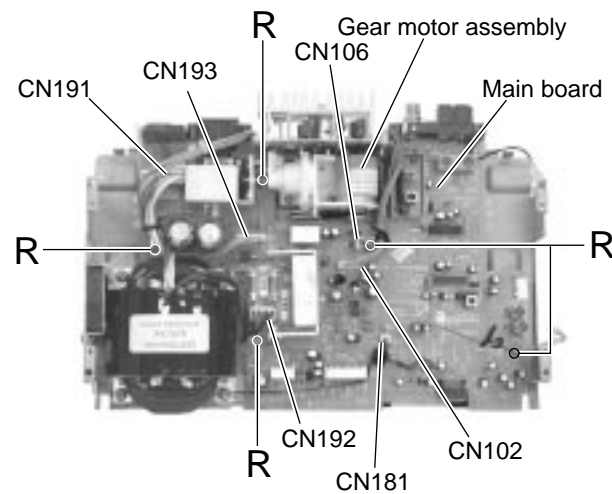

Fig.27
■Removing the main board (See Fig.27)